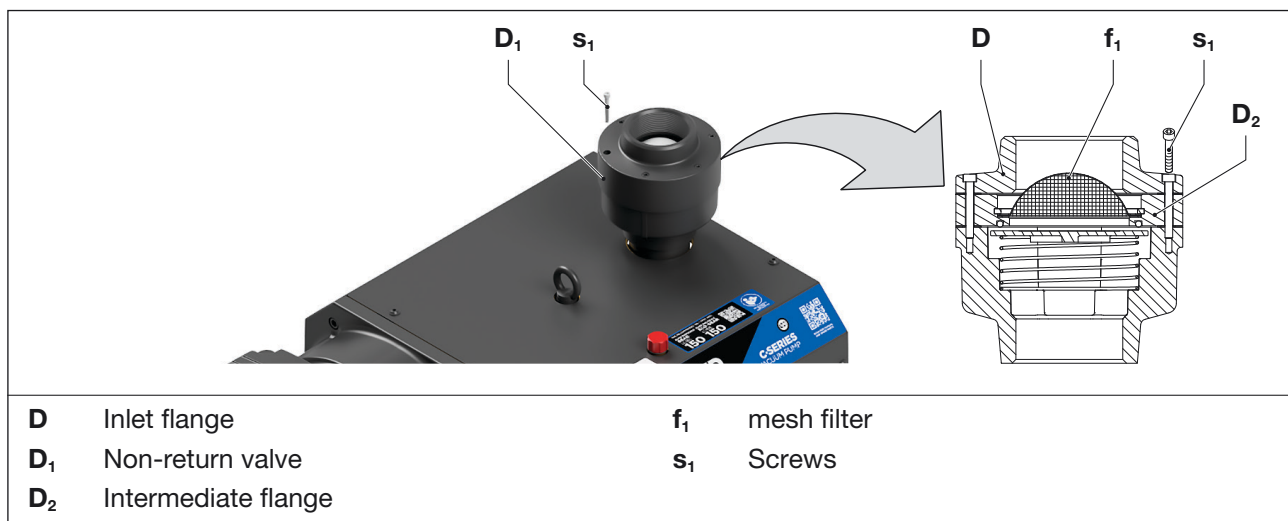

Fig. 6 Mesh filter
- Take off the inlet flange (Fig. 6/D) after releasing the screws (Fig. 6/s₁).
- Take out the intermediate flange (Fig. 6/D₂) with mesh filter (Fig. 6/f₁).
- Clean the mesh filter (Fig. 6/f₁). Also check the non-return valve (Fig. 6/D₁) for pollution and clean it if necessary.
- e) Remount the intermediate flange (Fig. 6/D₂) with mesh filter (Fig. 6/f₁) as well as the inlet flange (Fig. 6/D) and tighten the screws (Fig. 6/s₁). Tightening torque: 10 Nm.